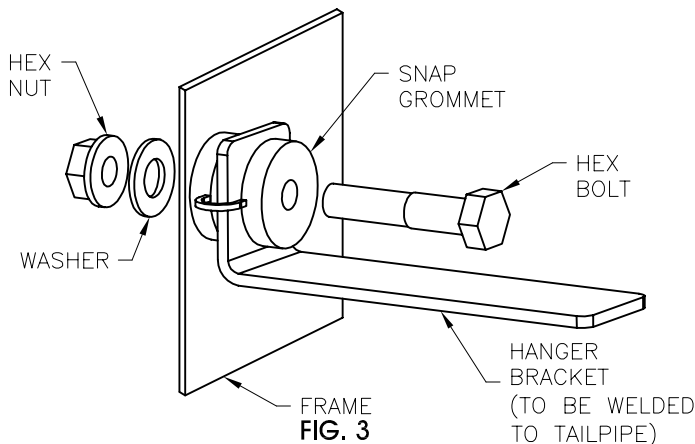

FIG. 3
**Step 2:** Begin installation of the new system by fitting the new mufflers, tailpipes and Tru-X crossover assembly into place for a mock-up fitment, as shown to the left. This will help to determine where to drill the frame or floorboards for the muffler and tailpipe mounting brackets as shown in Figures 1 & 3, if the OEM mounting points will not work. Sheet-metal screws are supplied to be used in place of the hex-head bolts if required. Use a 1/2" drill bit for the bolt/nut combo, or use a 5/16" drill bit for the tri-lobular sheet metal screws. You should now also be able to determine where to trim and or modify the inlet extension pipes if needed. With the system loosely installed, adjust the components for at least 1/2" clearance, including areas with moving parts (axles, driveshaft, etc.). Once a proper fit has been achieved using the supplied clamps, the inlet pipes can be welded to the manifold / header flanges. Once the tailpipe brackets are bolted in place as shown in Figure 3, they can be bent and welded to the tailpipes. The supplied turndown tips can be welded to the tailpipe to dump behind the bumper, or the tailpipe extensions can be used with/without the OEM tips to go through the bumper for an original look.